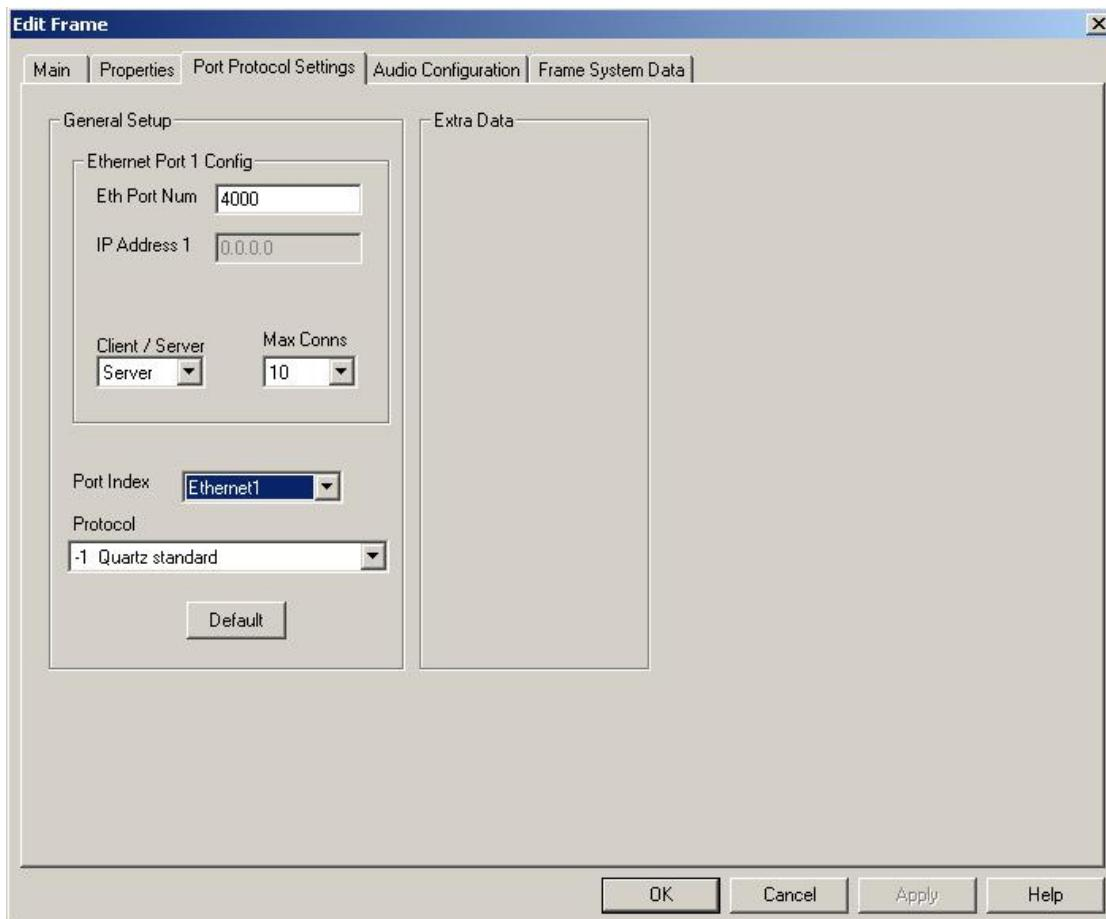

Figure 2-12: WinSetup Port Protocol Settings
3. Set the TCP port to match that of the Xenon router's Ethernet 1 port number. For our example, this is 4000. Figure 2-12 shows which WinSetup window is used to configure Ethernet 1 to accept the Quartz protocol.